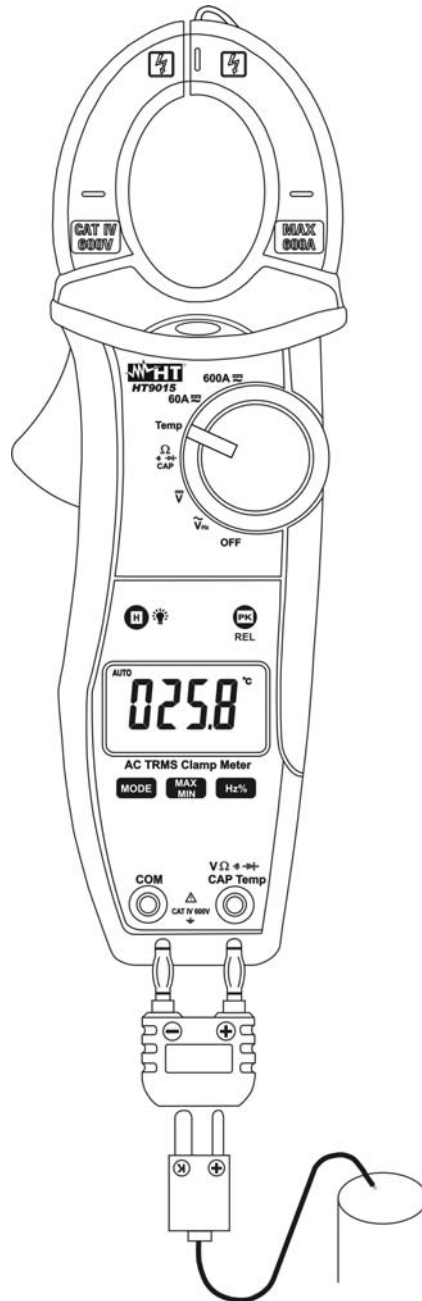

Fig. 8: Taking Temperature measurement
3. Insert the type K bead probe in **V Ω e → CAP Temp** and **COM** inputs terminals using the standard adapter and observing the correct polarity (see Fig. 8). The temperature value is shown at display